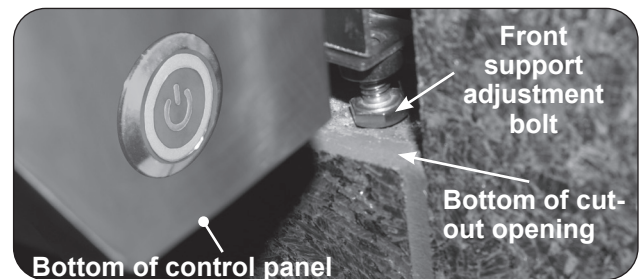

Fig. 26-3 Front support adjustment bolts
3. Rotate the front support adjustment bolts (up or down) until the pizza oven hanger rests flush on the countertop, AND, the adjustment bolts are touching the supporting structure found at the bottom of the cutout (lower support). Use a 7/16" open-end wrench as needed. See Fig. 26-3.